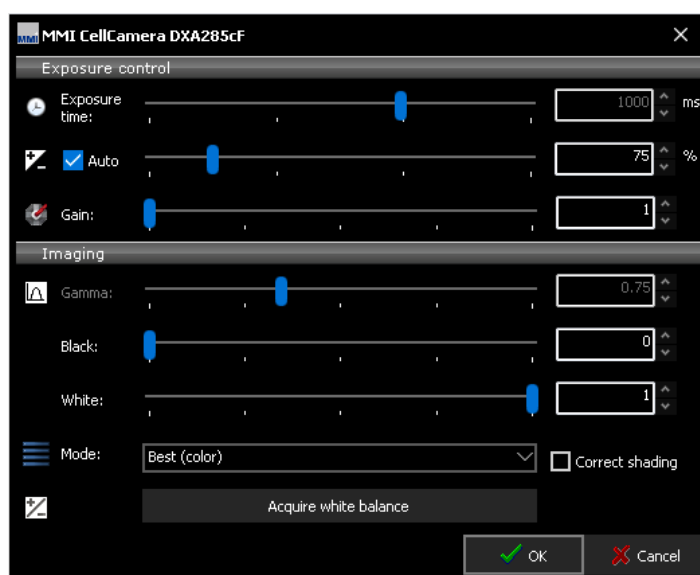

Figure 5.5: Camera settings for mmi CellCamera models
For best imaging results the camera can be controlled through a settings window (Fig. 5.5). To open it, click the camera button in the toolbar (*Ctrl + R*).
- activate **Correct shading** in the camera control panel (Fig. 5.5)